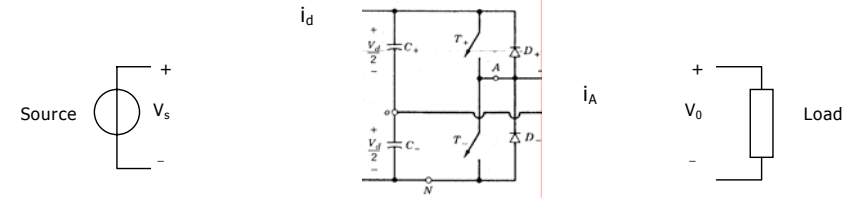

Fig. 36
For a certain application a dc voltage has to be stepped up from a source voltage V_s to a higher load voltage V_o . The voltage across the load should be fairly constant. The half-bridge circuit as shown in Fig. 36 is available, however the circuit is not complete yet and at least an inductor L has to be added. On the other hand some other components in the circuit are superfluous. The indicated terminals are not necessarily the terminals that have to be used as input and output.
- (5) 3.1 What type of converter would you preferably use for this conversion?
- (10) 3.2 Show by means of a circuit diagram how the desired conversion can be obtained by using the circuit from Fig. 36. Show where the inductor L should be added and include the connections to source and load. Describe shortly how the circuit is operated.